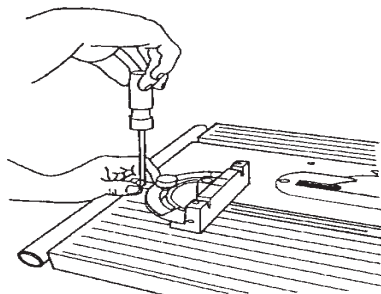

Figure B-84
- b. Use a medium screwdriver, loosen the screw (273) which holds the indicator plate (275), and set its "0" to the miter gauge's "90". Tighten the screw. See Figure B-84.